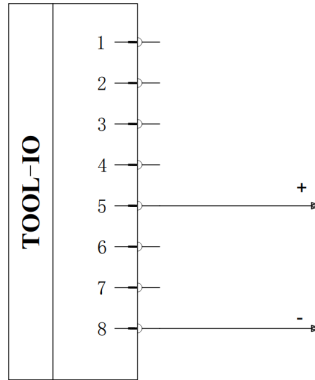

Figure 6-26 Single pin power mode wiring
2) Wiring method: as shown in Figure 6-26.